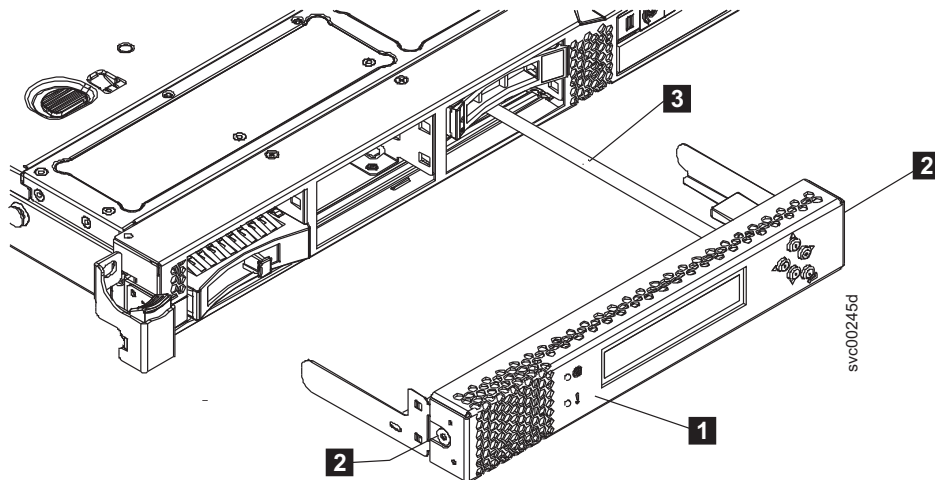

Figure 98. Service controller for the 2145-CG8 or 2145-CF8 with attached USB cable
6. Gently press both release buttons, shown by **2** in Figure 98 on page 120, and release the catch while pulling gently forward on the service controller.